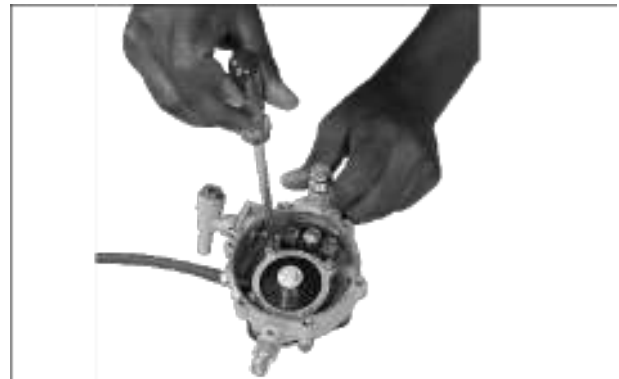

Fig. 7.29
- Loosen and remove 4 nos. Cheese head screw along with 4 nos. Spring washer from vacuum seal. (Fig. 7.29)